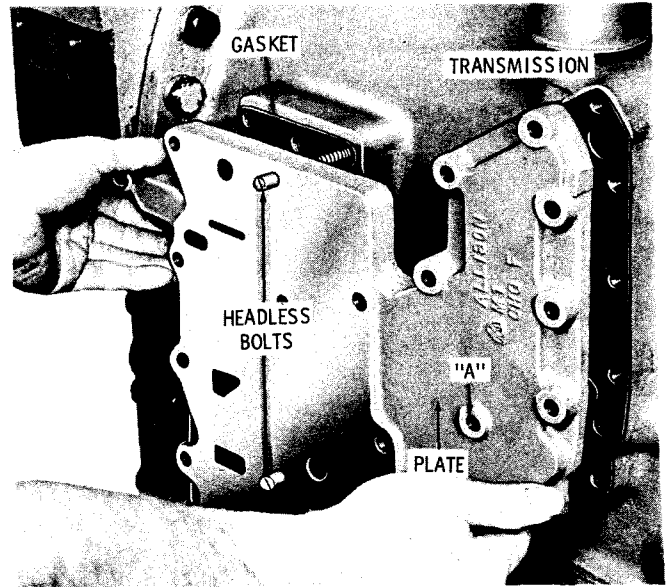

Fig. 7-99. Installing oil transfer plate (4-speed models)
(8) On 5640 and 5840 models, install two 3/8-inch headless guide bolts into the oil transfer plate mounting pad (fig. 7-99). Install the oil transfer plate gasket onto the transmission. Install the oil transfer plate and secure it with ten 3/8-16 x 1 1/2-inch bolts and lockwashers (no bolts in machined surface where valve body mounts). When tightening the bolts, start with the one located in hole A, then proceed around the perimeter of the transfer plate. This is a precautionary measure to prevent the gasket from becoming distorted and damaged in use. Tighten the bolts to 26 to 32